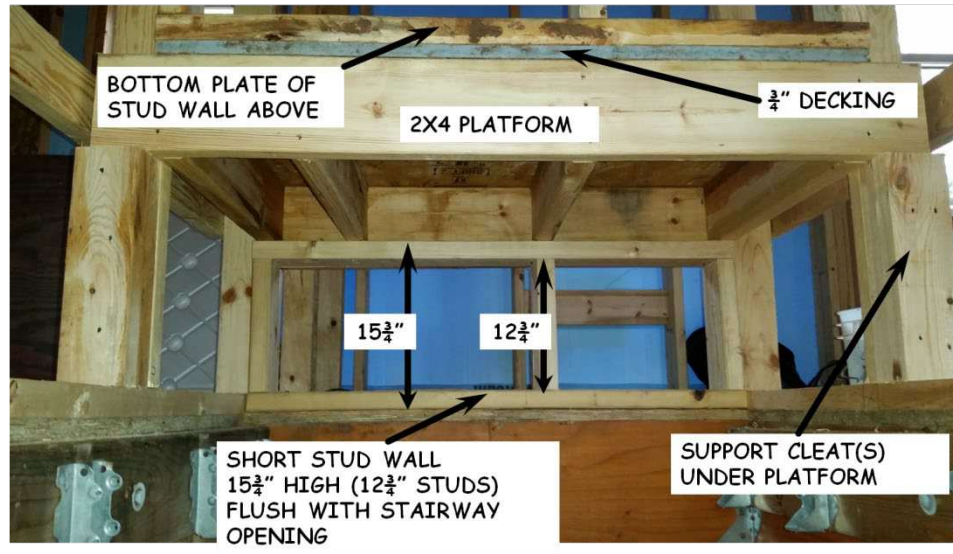
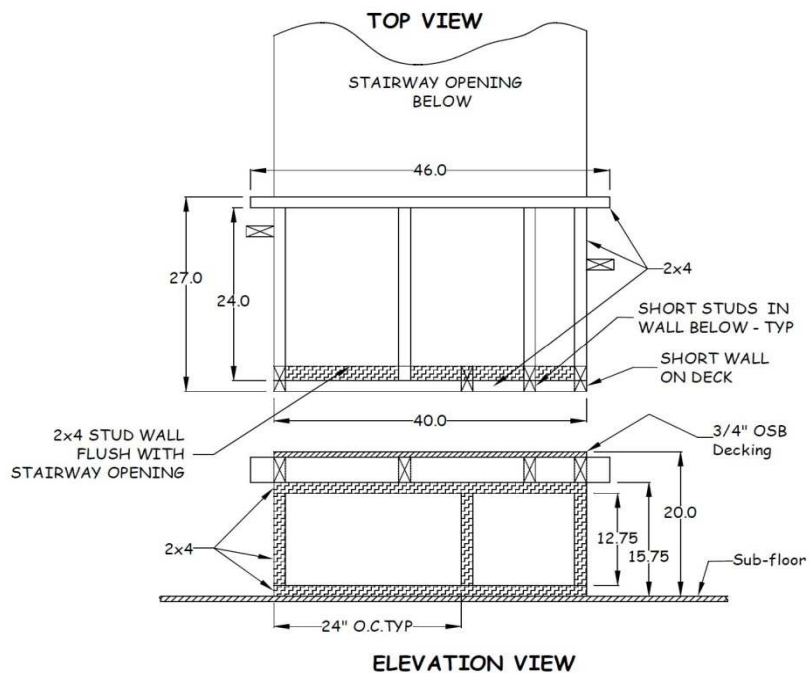

Figure 6-8. Closet Platform.
Figure 6-9. Platform for Closet Over Stairway.
4. Build a 27”x40” platform with 2x4 joists (16” o.c.) and ¾” OSB decking as shown in Figure 6-8 below. The stairway opening is typically 40” wide. Adjust the platform width as necessary to fit between the walls. The 2x4 that bridges the stairway opening on the cantilevered end should be 46” long so that it can be firmly supported with blocking or a stud inside the adjoining walls. Check the location of the wall studs to be sure that the 2x4 will not interfere on either side (see Figure 6-9). Once the platform is in place, with one end sitting on the short, 2x4 stud wall at the end of the opening, the other end will extend 24” over the opening. Adjust if necessary so long as the platform does not extend more than 24”.